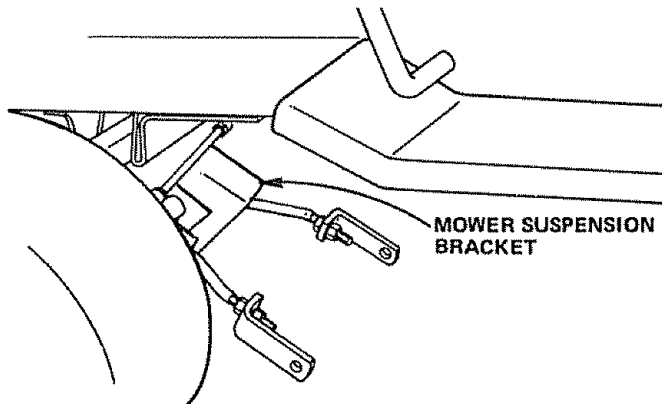

FIGURE 11
4. Remove bands from Mower Suspension Bracket (Fig. 11).
BEFORE DRIVING THE TRACTOR, INSTALL MOWER OR REMOVE FRONT MOWER SUSPENSION ARM (FIG. 11).
Your tractor has been shipped with the Mower Suspension Bracket banded to the frame. Remove bands and lower Mower Suspension Bracket (Fig. 11).